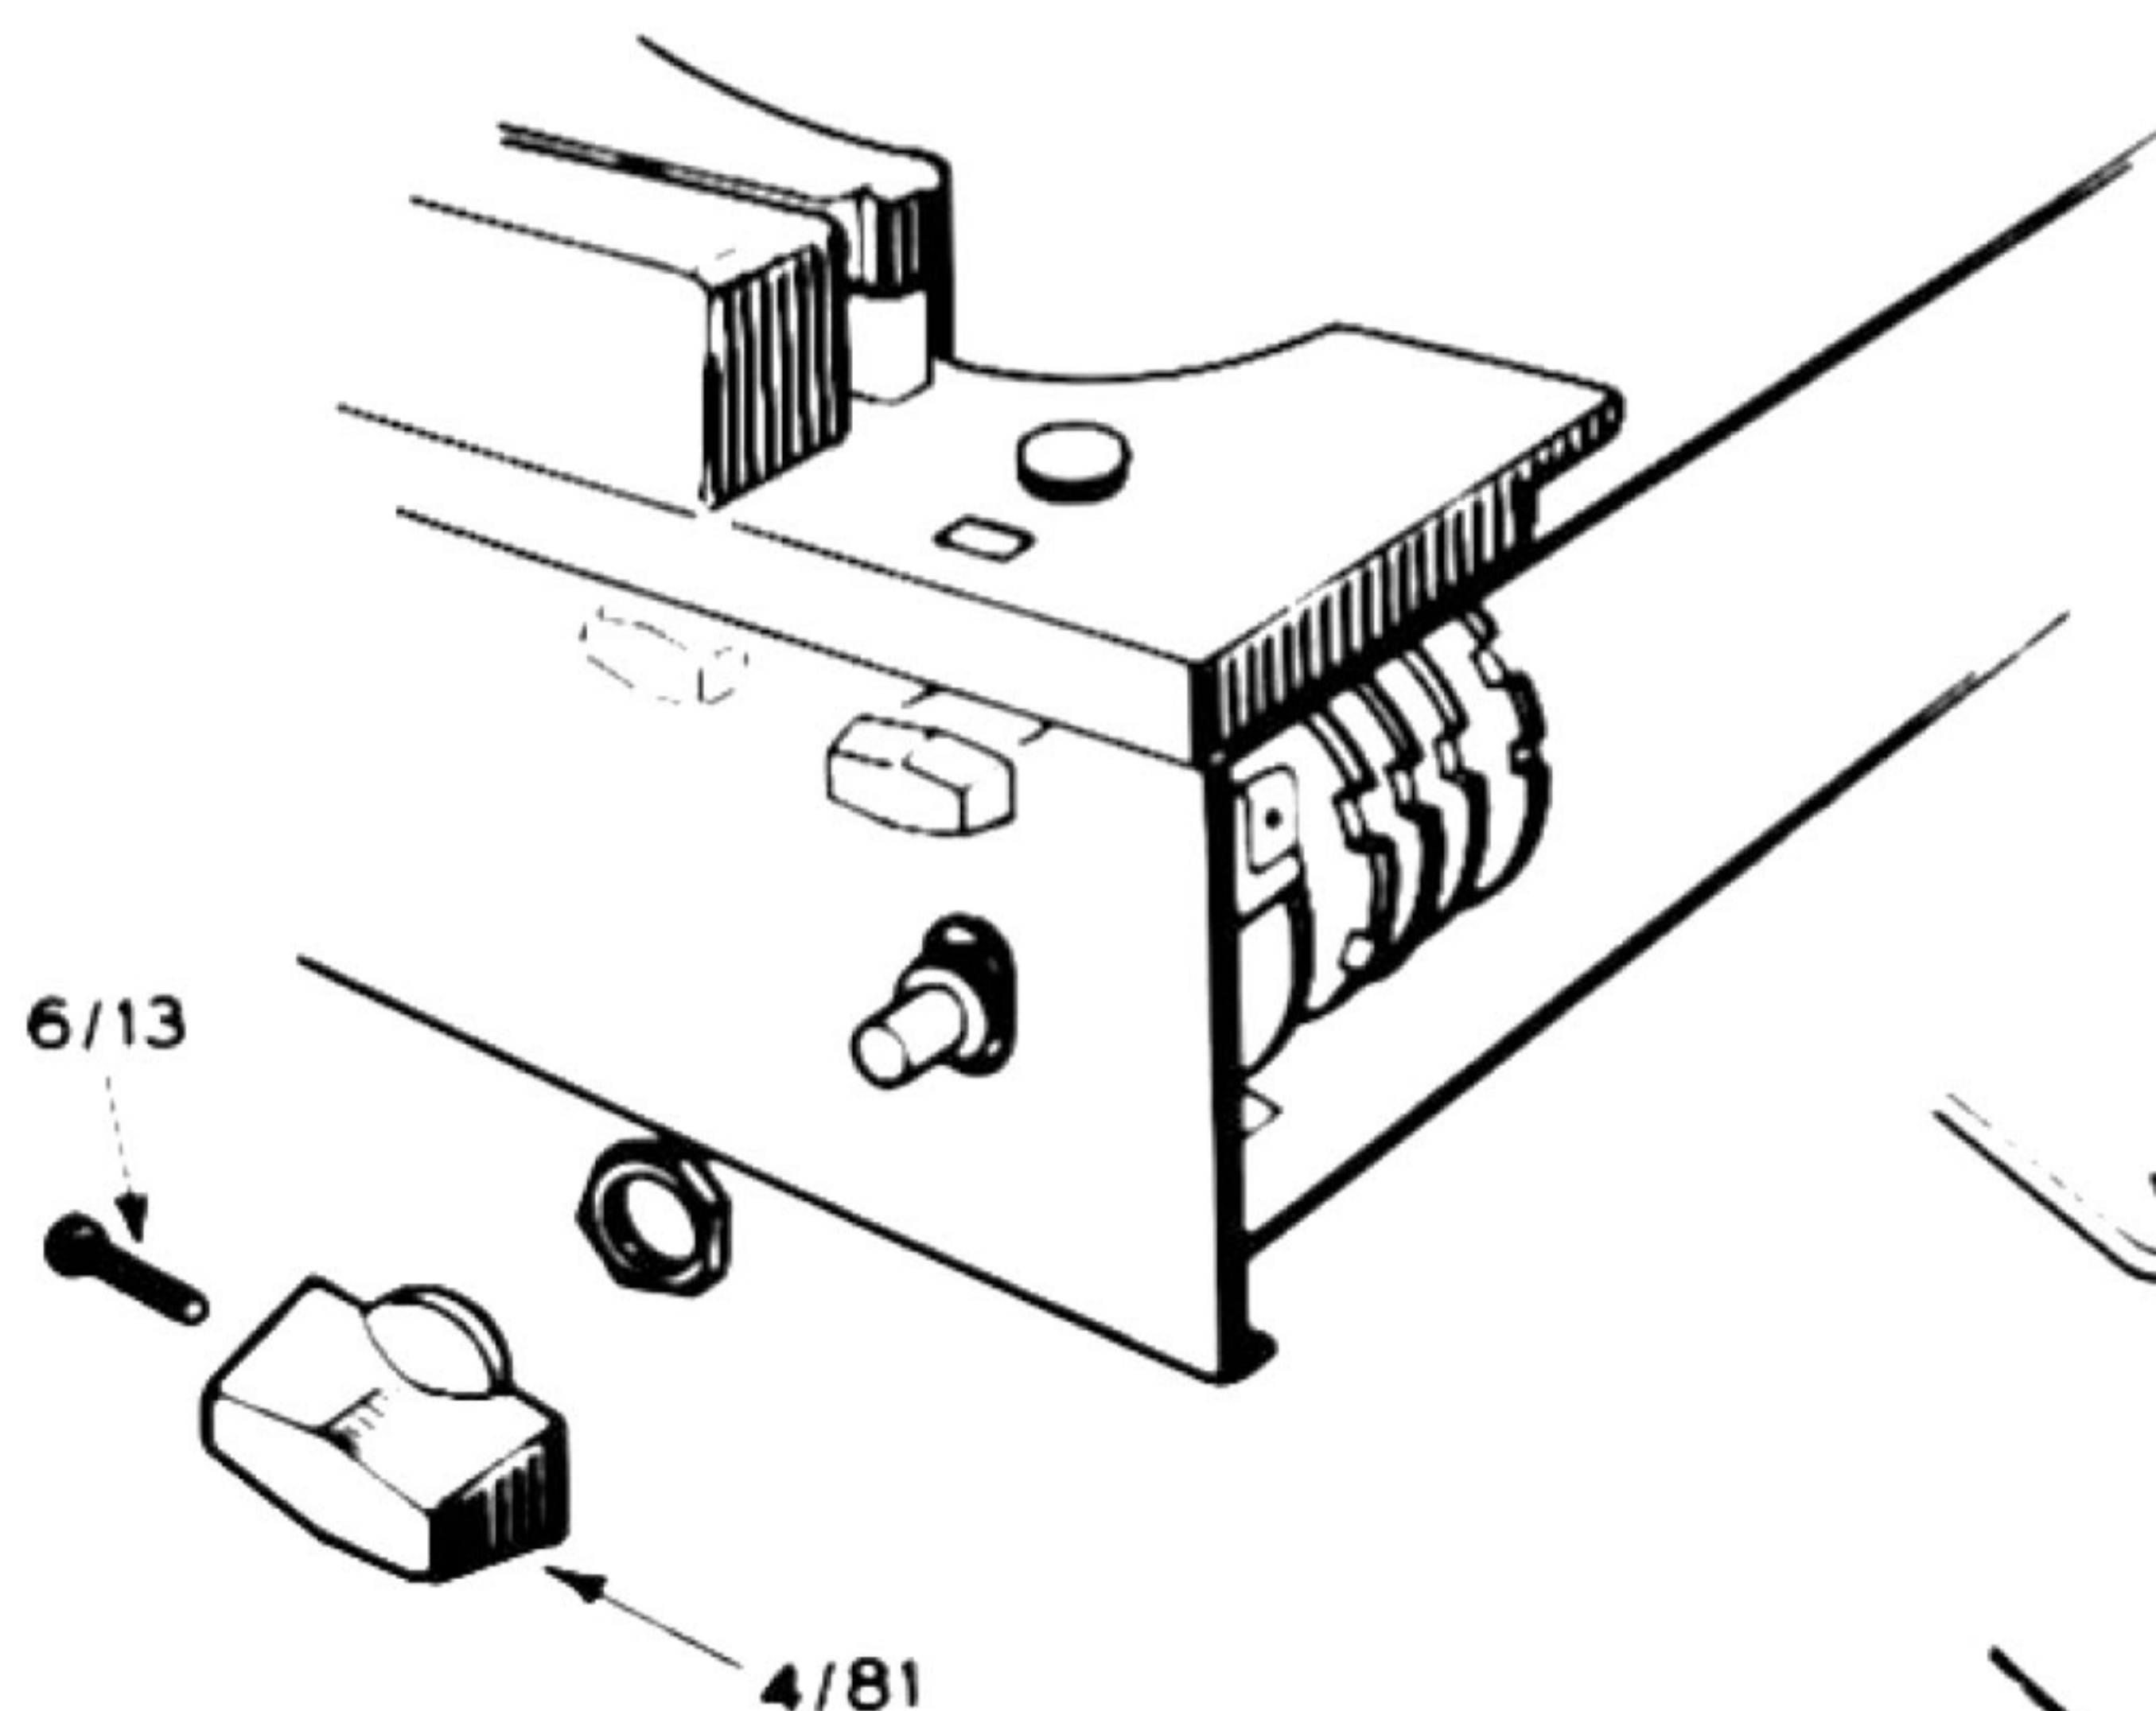

Fig 2.
3. Remove the nut which is now uncovered. Use a piece of card with a $\frac{1}{8}$ " dia. hole as a mask. This prevents the spanner scratching the panel, see Fig. 2.